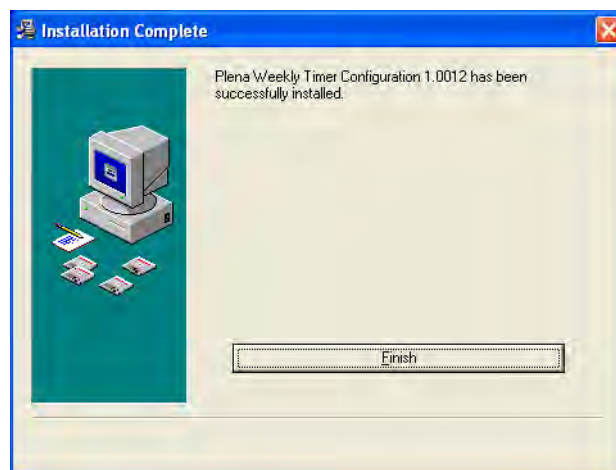

figure 8.6: Installation complete
- 6 Wait until the installation is complete. A window similar to the one in figure 8.6 will appear.